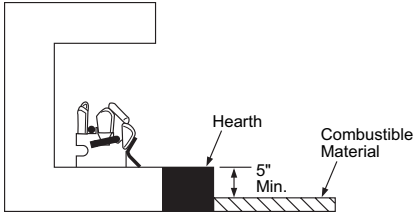

Figure 8 - Minimum Fireplace Clearances Above Combustible Flooring
- If combustible materials are less than 14" to fireplace, you must install appliance at least 5" above combustible flooring (see Figure 8).